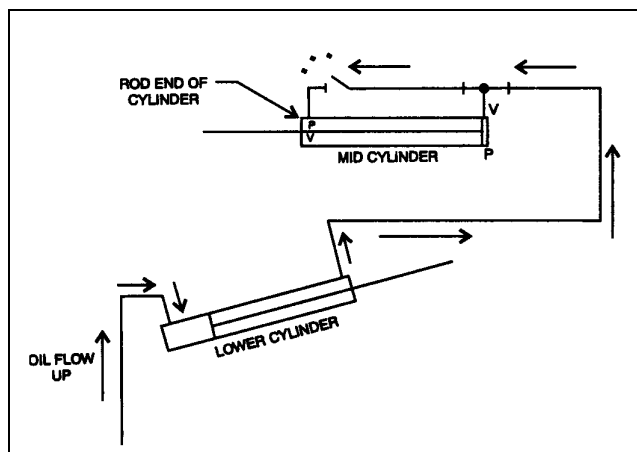

Figure 2-36. Port "P" Location.
1. Check oil level in the hydraulic oil tank (all booms must be retracted). See Figure 2-36 for location of bleeder fitting in pilot port "P" at rod end of mid cylinder.